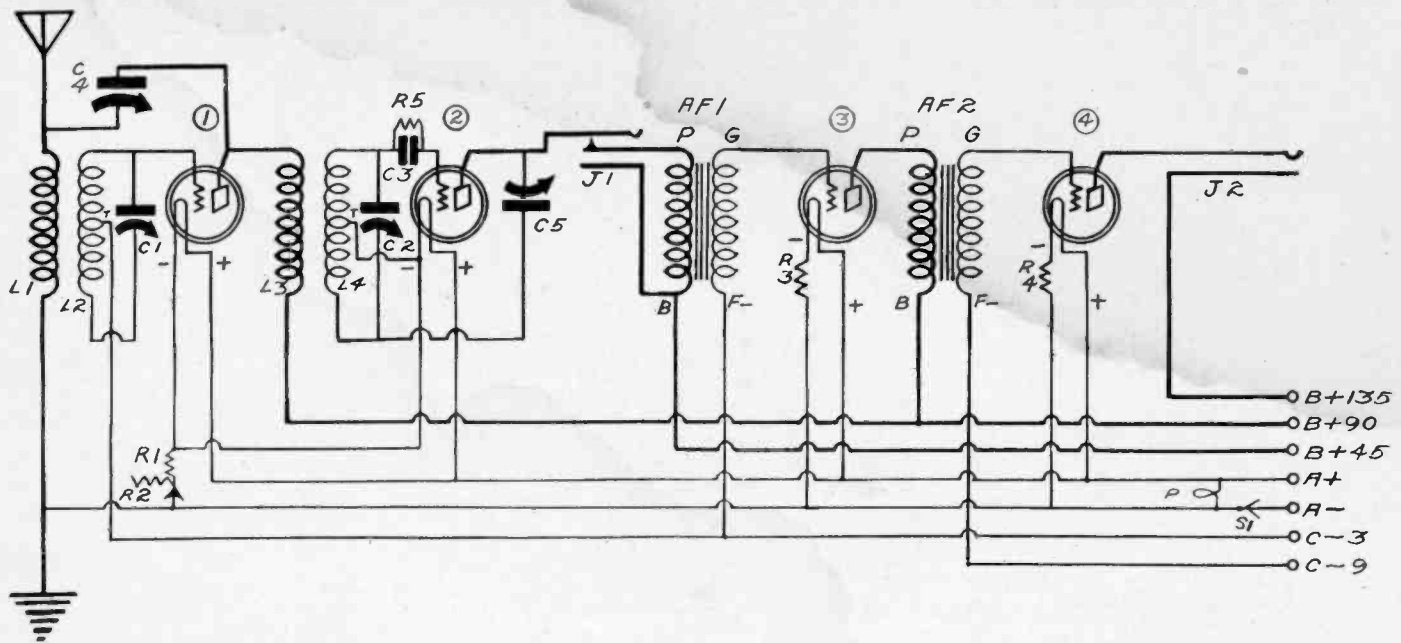

FIG. 1
The induced energy in the radio frequency side is kept at a high level by utilizing generous sized primaries for the transformers. These primaries are L1 and L3 in Fig. 1. Indeed, there is energy to spare, and, generally speaking, it is purposely diminished a little so that the sacrifice may be made upon the vastly important altar of selectivity. The connection of the grid return to a midtap (T) of the secondary is used for heightening the selectivity without adding extra stages. Of course the regeneration in the detector stage contributes very generously to the selectivity. In fact, the midtap method is used as auxiliary to the inherent selectivity of the rest of the circuit.
A thorough test of the receiver was made under average conditions in New York City. The first objective was to be able to tune through locals to bring in distance. This was accomplished very neatly and regularly, after the receiver had reached the state of development shown in Fig. 1. Many other designs were tried, but none equalled this one. Chicago stations were tuned in on the speaker between 8 to 10 P. M., when the locals in and about New York were going full blast. Without the maximum aid of regeneration this was not possible, but the regenerating condenser, C5, which is of small capacity, afforded excellent control, and carried the experiments to the desired conclusion.